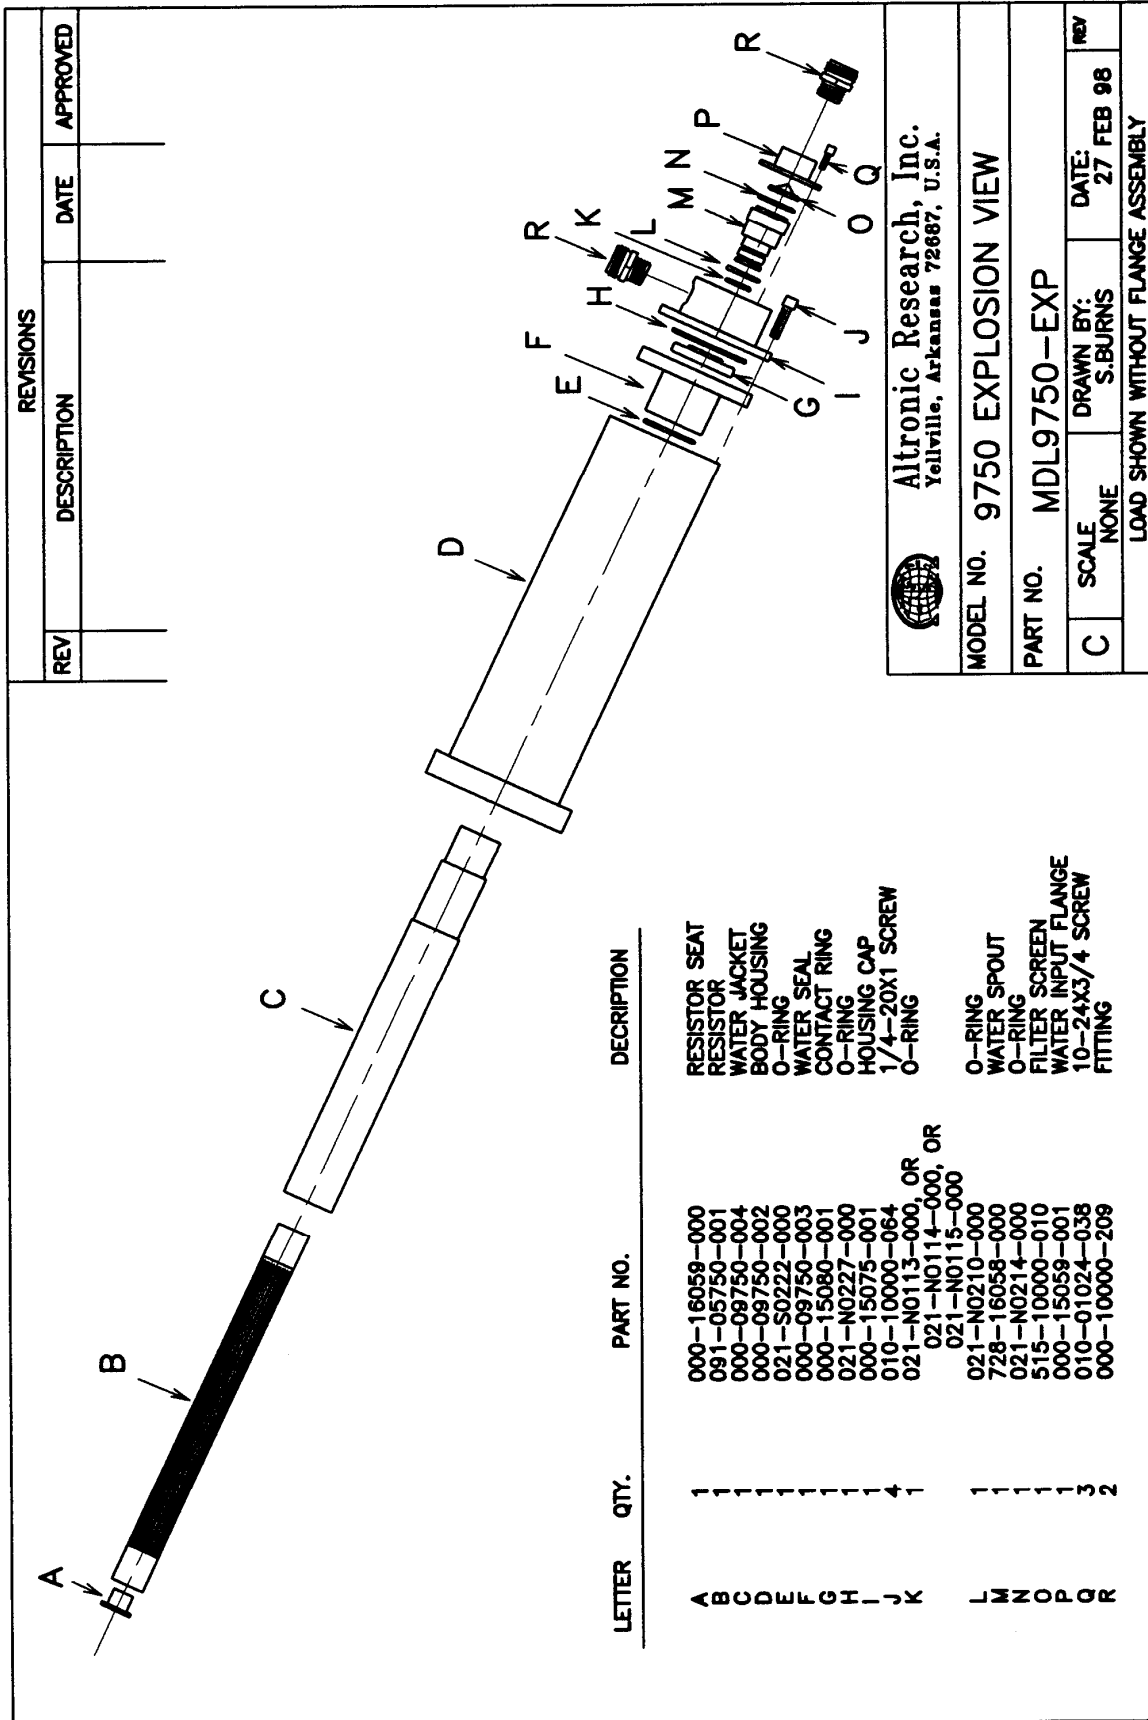
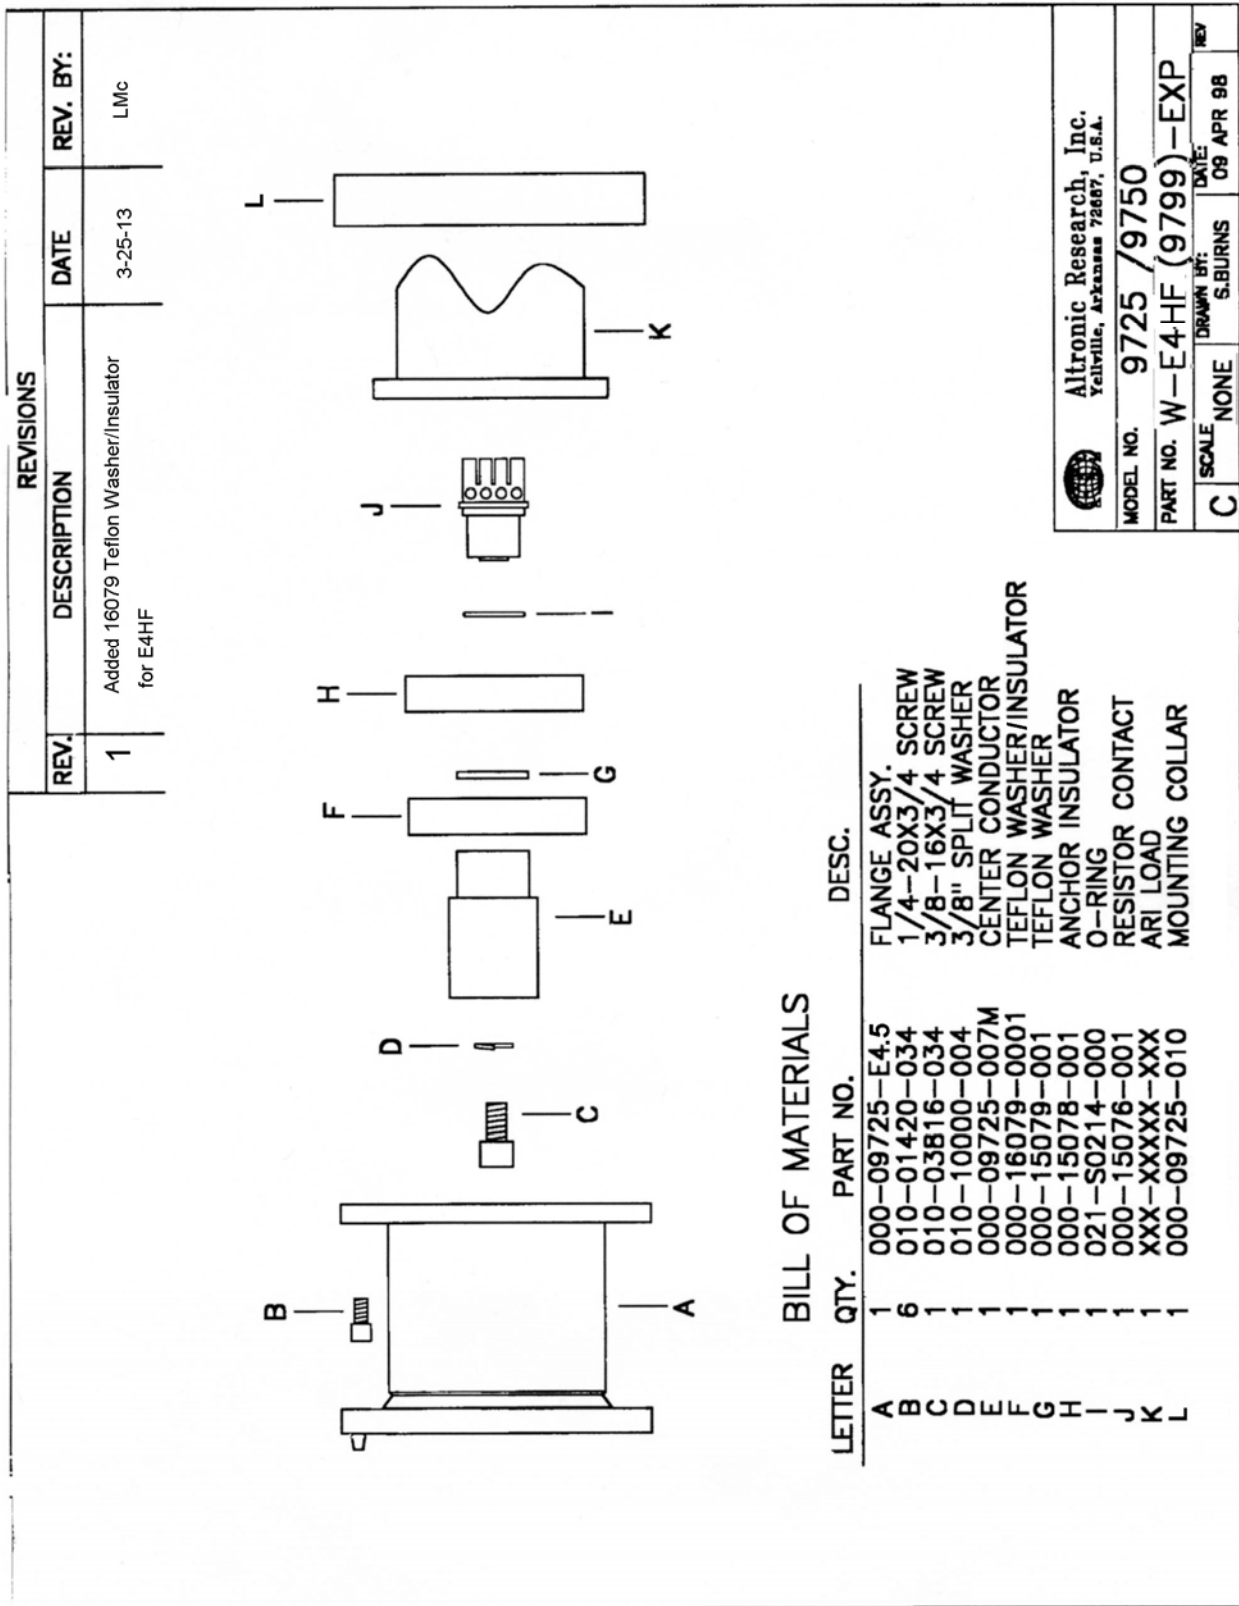

Fig. 14
Fig. 15
4. **Resistor Replacement** - (Refer to Fig. 14) To replace the resistor element, remove the three 10-24x3/8" cap screws (item Q). Remove water input assembly (items O, P, and R). Inspect filter screen for damage, replace if eroded or torn. Remove four 1/4-20x1" cap screws (item J). Remove housing cap assembly (items G, H, I, R, K, M and N). Inspect all O-rings for distortion or damage. Replace if pinched, cut, burned or no longer round in cross section. Inspect ring contact (item G) for signs of arcing or loss of silver in the area of contact with the resistor contact band. Replace if damage is noted. If
- 5. Removal of RF Input** - To remove the RF input line adapter flange, remove six 1/4-20 x 5/8" socket head screws (item B, Fig. 15) that secures the line adapter flange and mounting ring (items A & L, Fig. 15) to the load body housing (item D, Fig. 14). The RF input assembly consisting of the center conductor, anchor insulator and front resistor contact (Fig. 15, items C, D, E, F, G, H, I & J) will normally remain in the load body. Grasp the center conductor by hand and attempt to pull the input assembly out of the load body using slight side to side motion while pulling. If strong resistance is encountered, it may be necessary to chill the load to allow the anchor insulator to shrink away from the load housing. This can be done by placing the load in a freezer, or packing the load in ice for 20 to 30 minutes. Once the anchor insulator has shrunk away from the load housing, the RF input assembly should be easily removed. At this point of disassembly, all components of the load can be inspected or replaced as needed. Reassembly should be done in the reverse order of sequence.